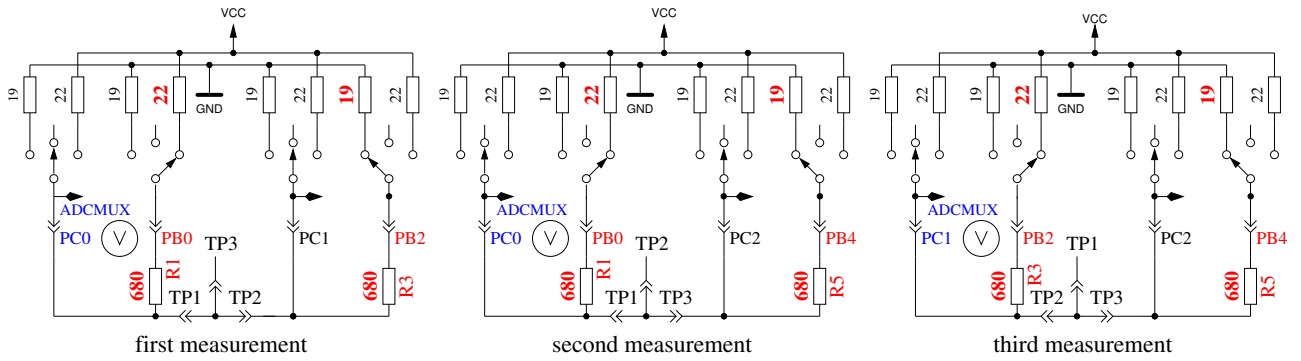

Figure 5.59. Comparison of 680Ω resistors
2. **Comparing of the  $680\Omega$  resistors.** In row 1 the cryptic text “+RL- 12 13 23” is shown. Meaning of this is as follows: The RL is the short form of Resistor Low meaning the  $680\Omega$  resistors. The 12 stand for: resistor at pin 1 is connected to VCC (+) and resistor at pin 2 is connected to GND (-). The result of this measurement is displayed in row 2 at the first place as difference to the theoretical value. In row 1 follows now a “13” which means, that the first connection of measurement 1 is still connected with  $680\Omega$  to VCC but that the resistor of pin 3 is connected to GND. The result is displayed in the middle place of row 2 as difference to the theoretical value. The last measurement of this test “23.” means that now the resistor at pin 2 is connected to VCC (+) and the resistor of pin 3 is connected to GND. The result of measurement is displayed at the last place of LCR row 2 as difference to the theoretical value. Please remember, that the resolution of the ADC is about 4.88mV! The measurement situation is also shown in figure 5.59. The theoretical value with respect to the internal resistance of the pins should be: